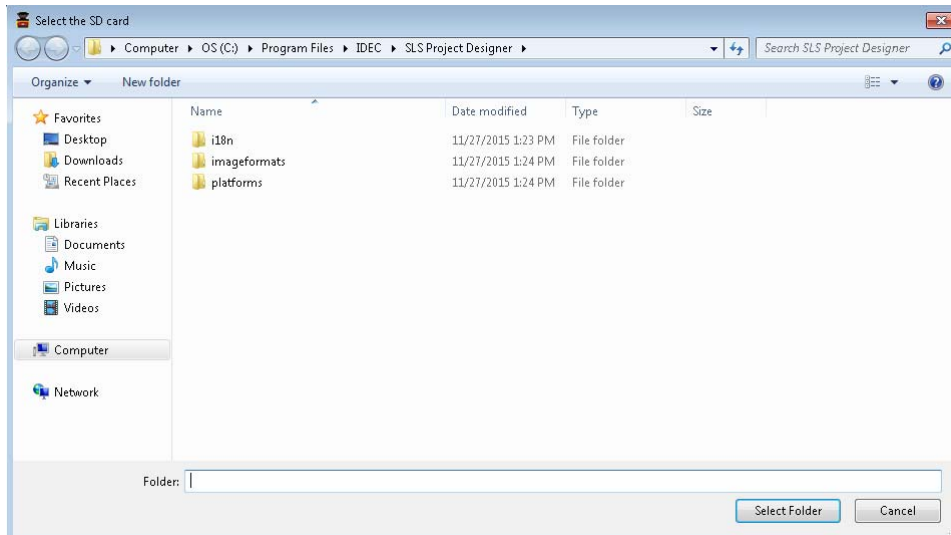

Figure 7-59 SD Card selection screen
- f) Verify that SD card is inserted into the PC slot and click “Save” button. Save dialog box as shown in Figure 7-59 will appear.